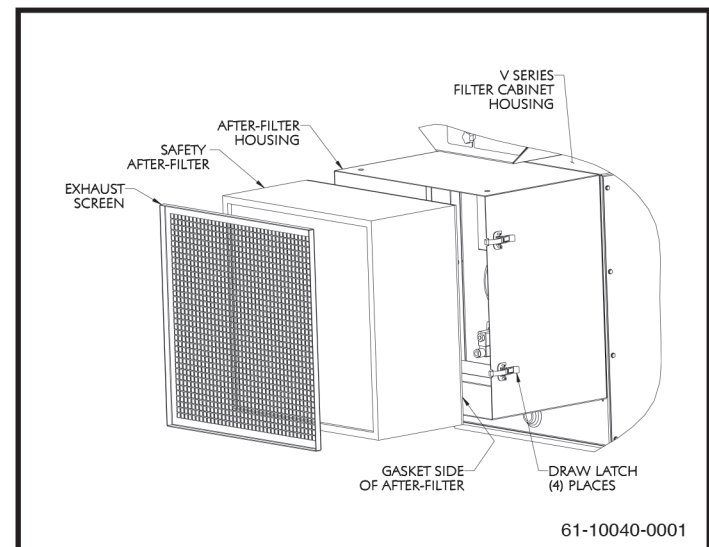

**Figure 9. After-Filter Removal**
If your unit was ordered with a HEPA or carbon after-filter, there will be an additional filter housing bolted to the discharge side of the V Series unit. The following steps will allow you to remove and replace the after-filter as shown in Figure 9. NOTE: After-filter housings for portable units (VP) have a push handle located on the top of the housing.
3. The after-filter will slide out of the housing as shown in Figure 9. Keep in mind that the filter weight may significantly increase from the collected material. Dispose of filter properly.